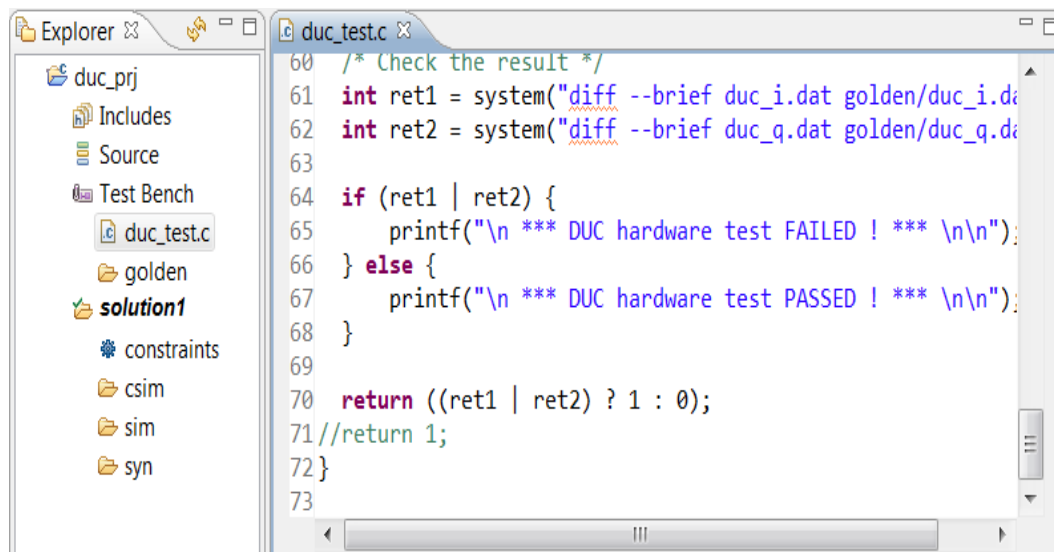

Figure 8-6: RTL Test Bench
1. Expand the **Test Bench** folder in the Explorer pane (Figure 8-6).